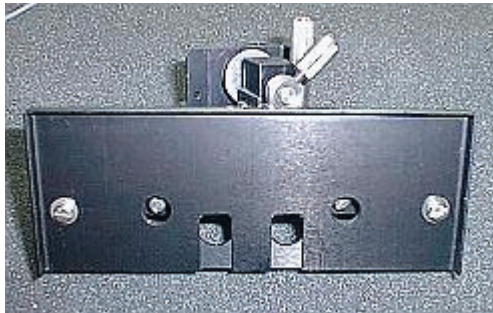

Figure 48 Front plate without fascia
2. Refit the front plate without the fascia, as shown in Figure 48.